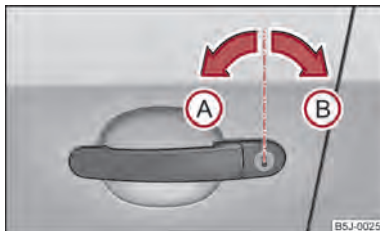

Fig. 12 Turning the key for unlocking and locking the vehicle
- Turn the key in the locking cylinder of the driver's door in the direction of travel (unlock position) **(A)** ⇒ fig. 12.
- Turn the key in the locking cylinder of the driver's door in the opposite direction of travel (lock position) **(B)** ⇒ fig. 12.